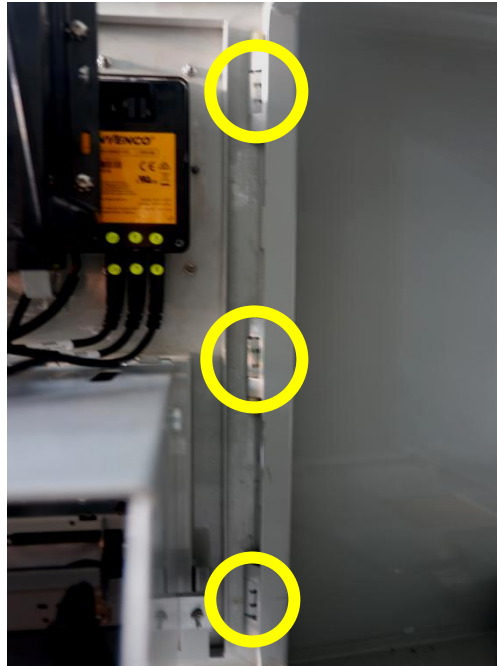

Fig 2.8a- Location MP1039 (Hinge).
4. Attached RP00012-XX or RP00042-XX to the Main Case (MP1041) by used hinge pin (MP1040) and MP1039 (Hinge) to lock it at 3 location as shown in figure 2.8a.